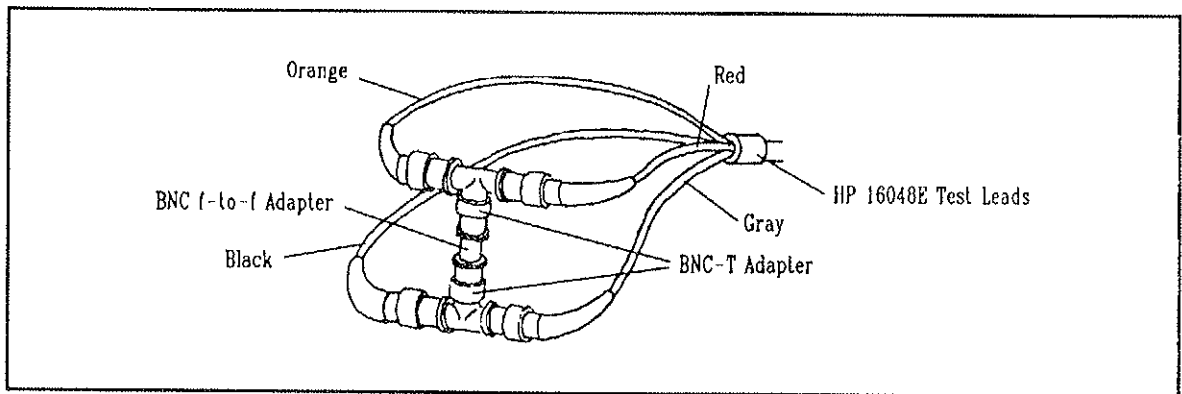

Figure 3-32. Test Leads Connections for SHORT Correction
11. Connect the BNC female adapters connected to the test leads using a BNC f-to-f adapter as shown in Figure 3-32, and select **MEAS SHORT** softkey. The SHORT correction starts immediately.